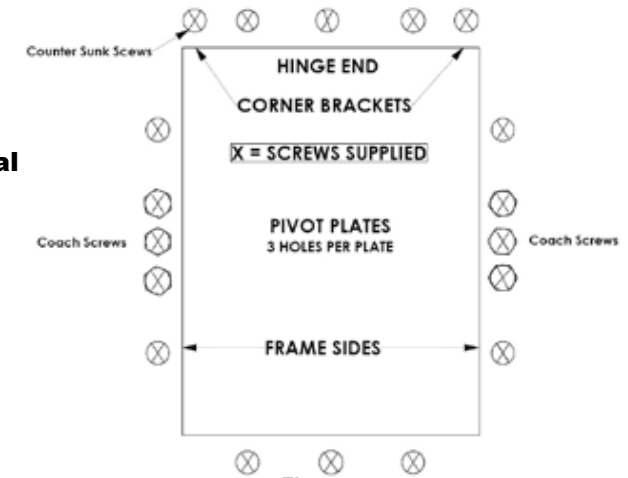

Figure 4
- Check to be sure that the folding attic ladder frame is flush with the ceiling before final screwing. Once the folding attic ladder is positioned as desired, final screwing should be done through the folding attic ladder frame (see Figure 4 on page 5).